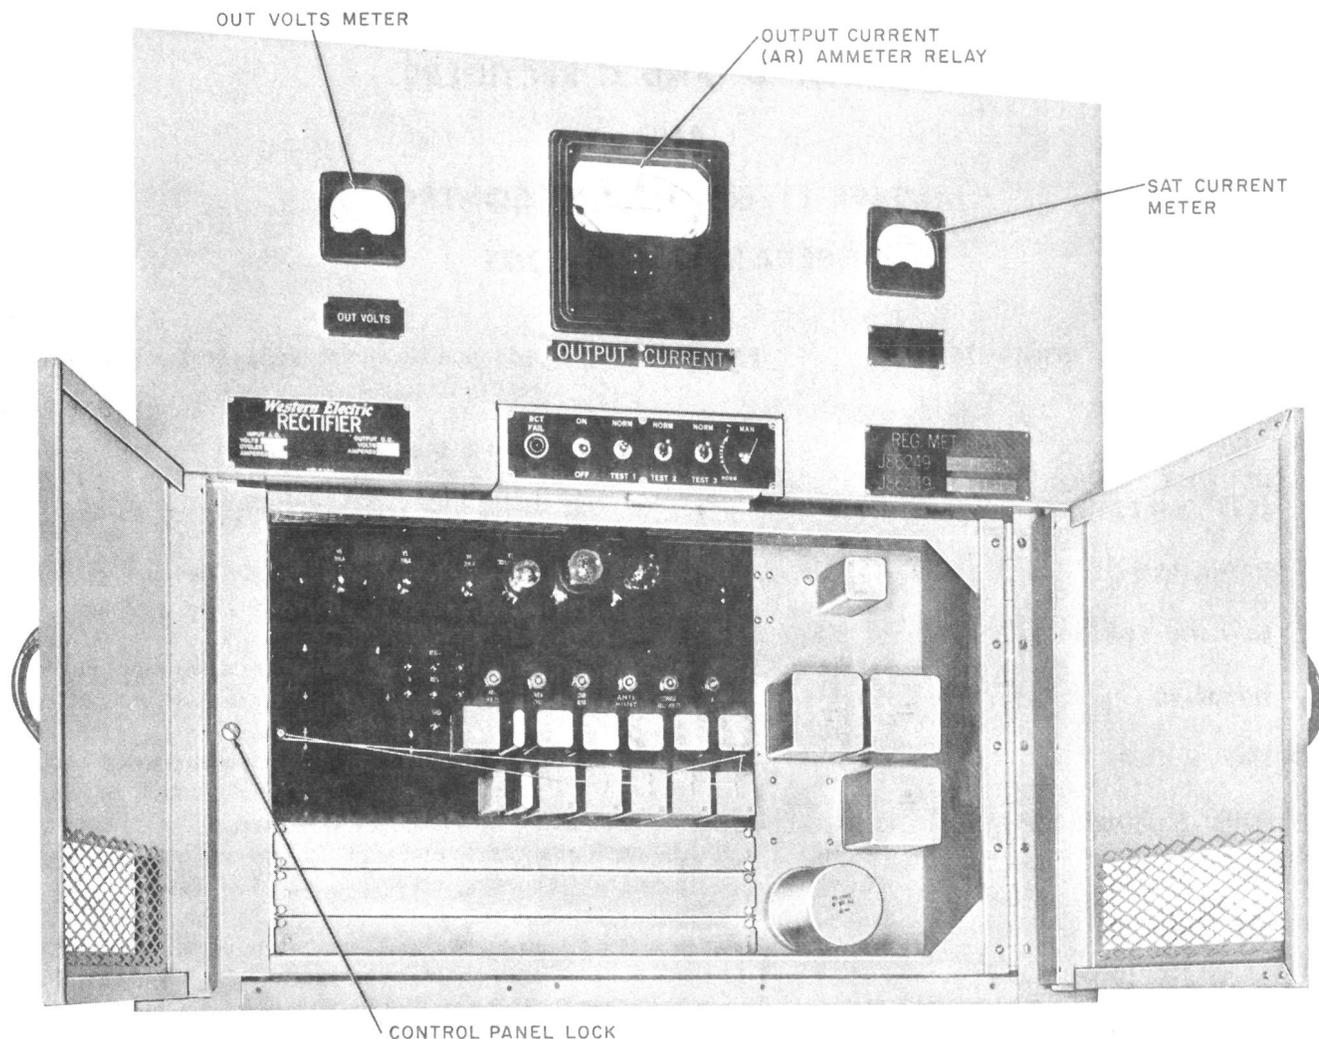

Fig. 1—J86249E L1 Electronic Control Panel and Rectifier Output Meters
1.01 The J86249 regulated metallic-type rectifier, in conjunction with the J86249E L1 electronic control, provides regulated dc power for 300-type plants. See Fig. 1 and 2. It is designed to provide regulated dc power from an ac power service. The rectifier is available in ratings of 44 to 65 volts, 100 amperes dc, 22 to 33 volts, 100 amperes dc, and 22 to 33 volts, 200 amperes dc, and is suitable for floating and charging storage batteries. The input power requirement is 210 volts ± 8 percent, 3-phase, 3-wire, 60-Hz ± 2 percent alternating current, but, with transformers, it may be connected to nominal 230- or 250-volt power service. It is self-regulating within ± 0.5 percent and is suitable for use in room temperatures from 50 to 104°F (10 to 40°C).
1.06 The instructions are based on drawing SD-81129-01, Fig. 1 and 2. For detailed description of the operation, see the corresponding circuit description.
be indicated on the OUT VOLTS voltmeter and OUTPUT CURRENT (AR) ammeter relay (see Fig. 1).